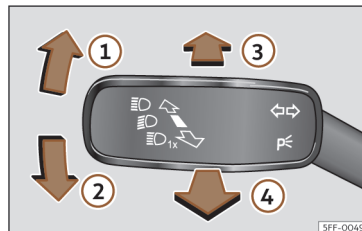

Fig. 97 Turn signal and main beam lever (depending on the version).
- From the base position, press the turn signal and main beam headlights lever forwards »» **Fig. 97** .
- **OR:** while the main beam is on, pull the turn signal light and main beam headlights lever forwards»» **Fig. 97** .